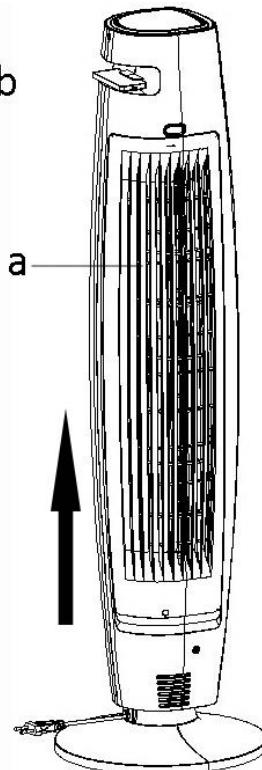

Fig. 3
- 5) Install the wind wheel (b) back to the appliance, tighten the nut (c) in the “TIGHTEN” direction. Install the air inlet grill (a) back (fig. 3), make sure it locked well otherwise the appliance cannot be turned on.